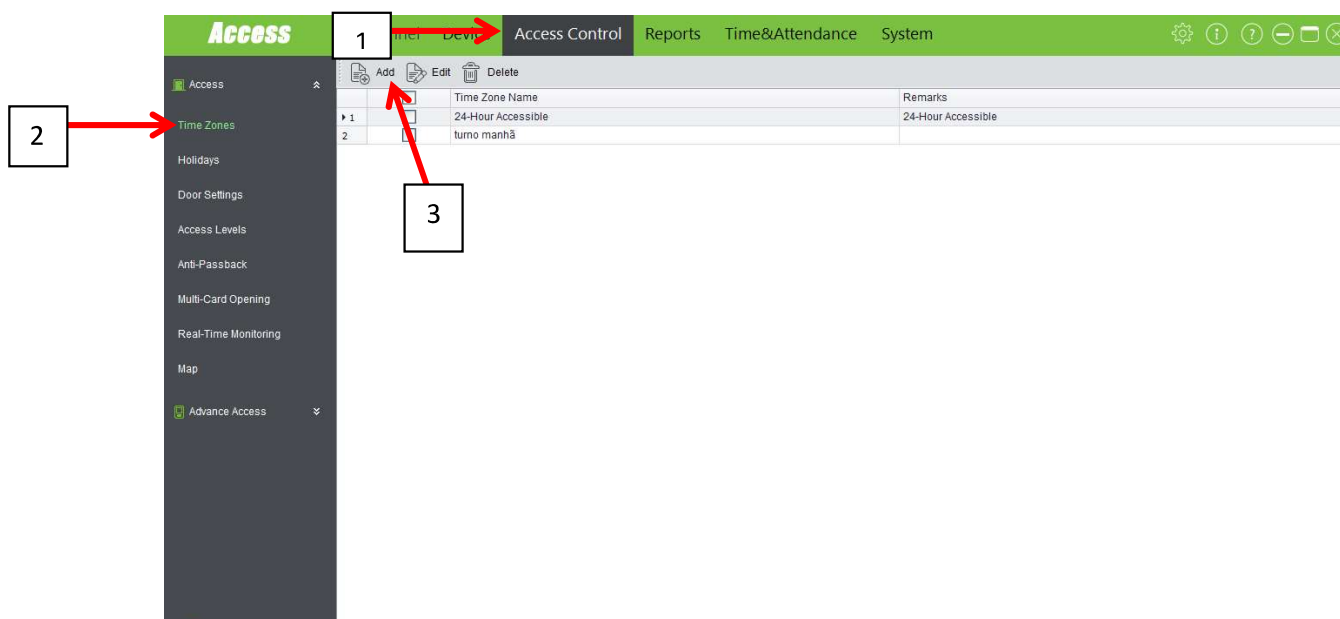

Figura 26 - Time Zones
Para criar **Time Zone** clicar em **Access Control (1)** -> **Time Zone (2)** -> **Add (3)** (Figura 26).